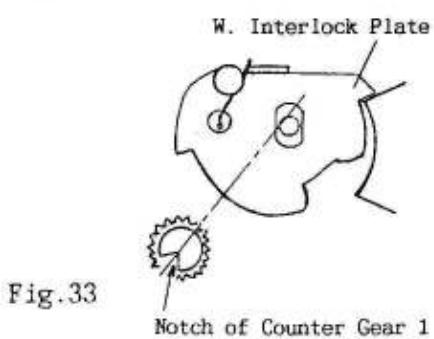

Fig.33
- 1) Insert the toothed portion of the Counter Gear (1) (14786300) under the ME-W Lever and engage it with the W. Gear.
- a) Install the Counter Gear (1) with its notch positioned on the opposite side of the W. Shaft. (Fig.33)
- 2) Put the surface (A) of the W. Shaft (A) Ass'y (1AE06100) upon the surface (B) of the W. Interlock Plate. Interlock Plate and place the Counter Base Plate Ass'y on them. In doing so, push the C. Release Lever in the direction of the Counter Shaft and pass the Counter Gear (1) through the slot.